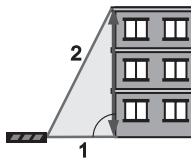

Fig. 1,
- The device can calculate the length of a hard to measure side from two easily measurable sides by calculation of the Pythagorean theorem. This function is used, for example, when measuring the height of a building, where the distance of the device from the foot of the building is measured (i.e. the shorter cathetus of a right-angled triangle) and the distance of the building's roof from the same measurement position of the device (i.e. the length of the hypotenuse of a right-angled triangle). The Pythagorean theorem is used to calculate the height of the building from the ground as the longer cathetus of a right-angled triangle, see fig. 1. In this case, this is a simple Pythagorean theorem function .
- To activate the simple Pythagorean theorem function , press button  and measure the lengths of the required (flashing) sides by pressing button . After measuring the length of one of the flashing sides, another side will start flashing that needs to be measured by pressing the same button. The lengths of the individual measured sides will be shown on the rows of the display, whilst when both the necessary sides are measured, the longest cathetus (height) will be automatically calculated according to the Pythagorean theorem as described in fig. 1. The resulting value (height) will be shown on the bottom row of the display.